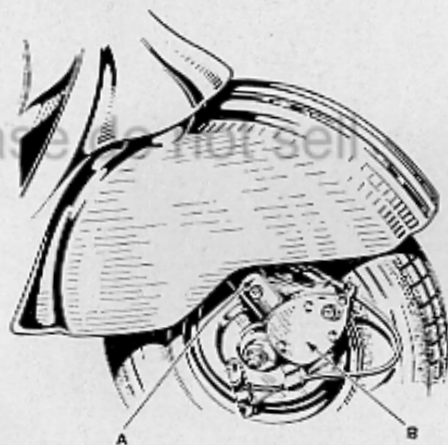

Fig. 2
The front suspension (fig. 2) is realized by means of trailing links. Each trailing link is connected to a lever bearing an end ball which compresses a progressive type spring, located inside the fork tubes (A). This group is hermetically protected against water and dust and operates in the grease enclosed within the boxes (B) the result being longer working life and no maintenance.